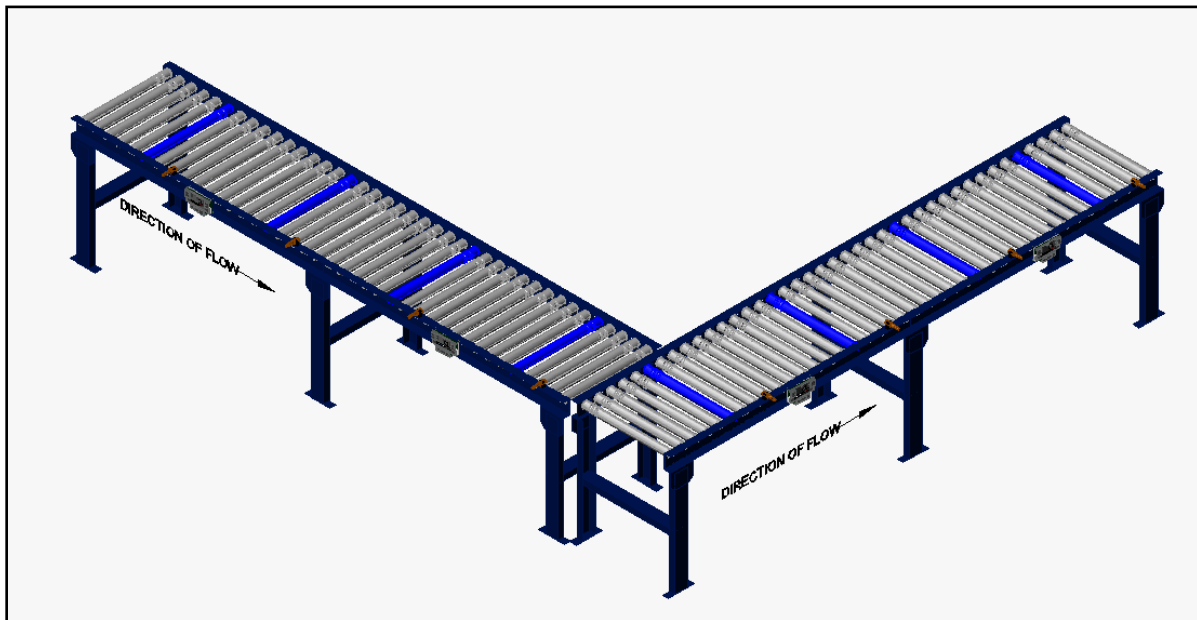
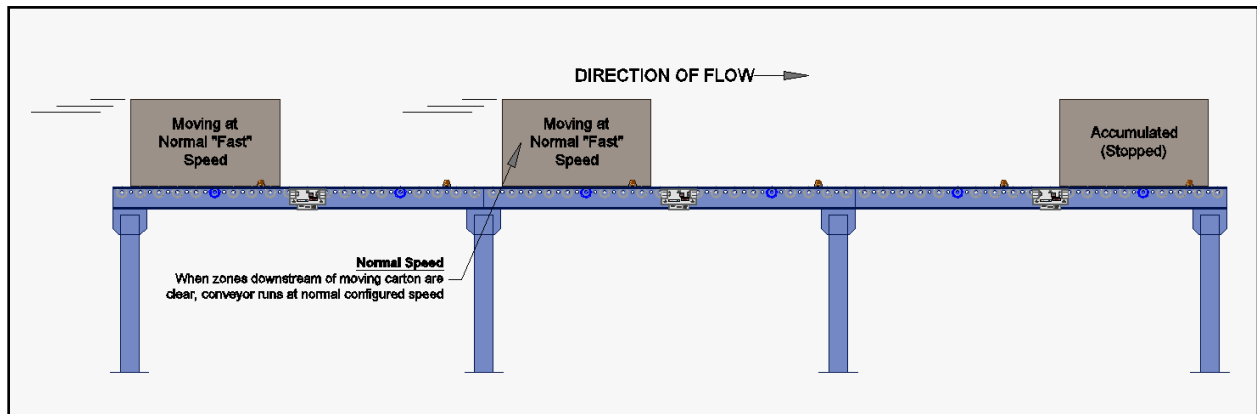

FIGURE 41 - TYPICAL T-ZONE CONFIGURATION
FIGURE 47 - NORMAL RUNNING BEFORE LOOK AHEAD ENABLES
Assuming you have either changed your PC's configuration or changed the *Auto Configuration Master's* configuration as described above; you should now be able to use the *EasyRoll* main screen to view your system's status and change operational parameters. If you have followed the above example, simply closing the *Advanced Dialog* will show the main screen. The main screen is also shown when you first run *EasyRoll*. Figure 41 shows a typical main screen.
The numbered items in Figure 41 show the basic functional areas and detailed descriptions will follow for each.
You access the *Diagnostic Window* by clicking the image in the upper right portion of the *Main Screen* (numbered item 8 in *Figure 41*). An example of the *Diagnostic Window* is shown in *Figure 47*.